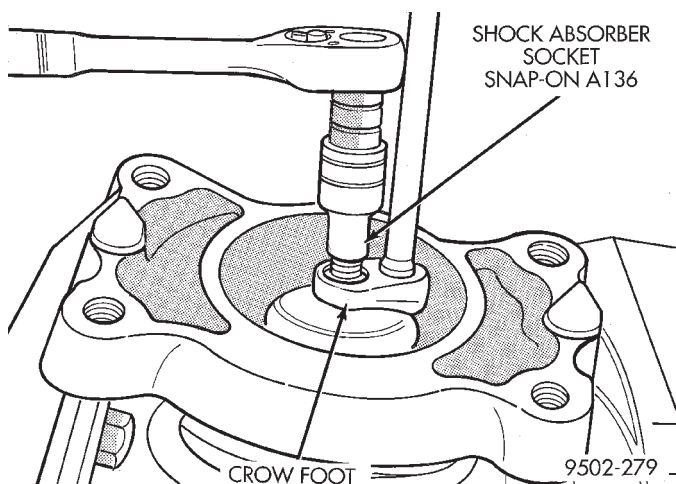

Fig. 87 Shock Absorber Shaft Nut Removal/Installation
(4) Hold the rod of the shock absorber from rotating using Shock Absorber Socket, Snap-On A136 or an equivalent (Fig. 87). Then remove the shock absorber shaft nut.
(11) Install nut on rod of shock absorber assembly. Install Shock Absorber Socket, Snap-On A136 or an equivalent on end of shock rod to keep rod from turning (Fig. 87) Then tighten rod nut using a crowfoot (Fig. 87) to a torque of 55 N·m (40 ft. lbs.).
(12) Relieve all tension from spring compressor. After all spring tension has been remove from the spring compressor, remove it from the shock absorber assembly.
(13) Remove the clevis from the shock absorber. The clevis must be removed from the shock absorber for installation in vehicle.
(14) Install shock absorber assembly back in the vehicle. Refer to Shock Absorber Installation in this section of the service manual for the proper procedure